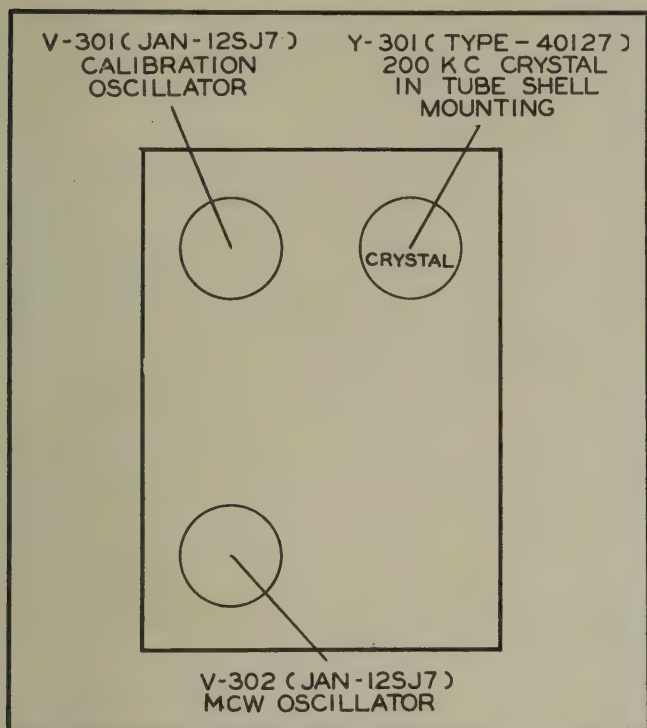
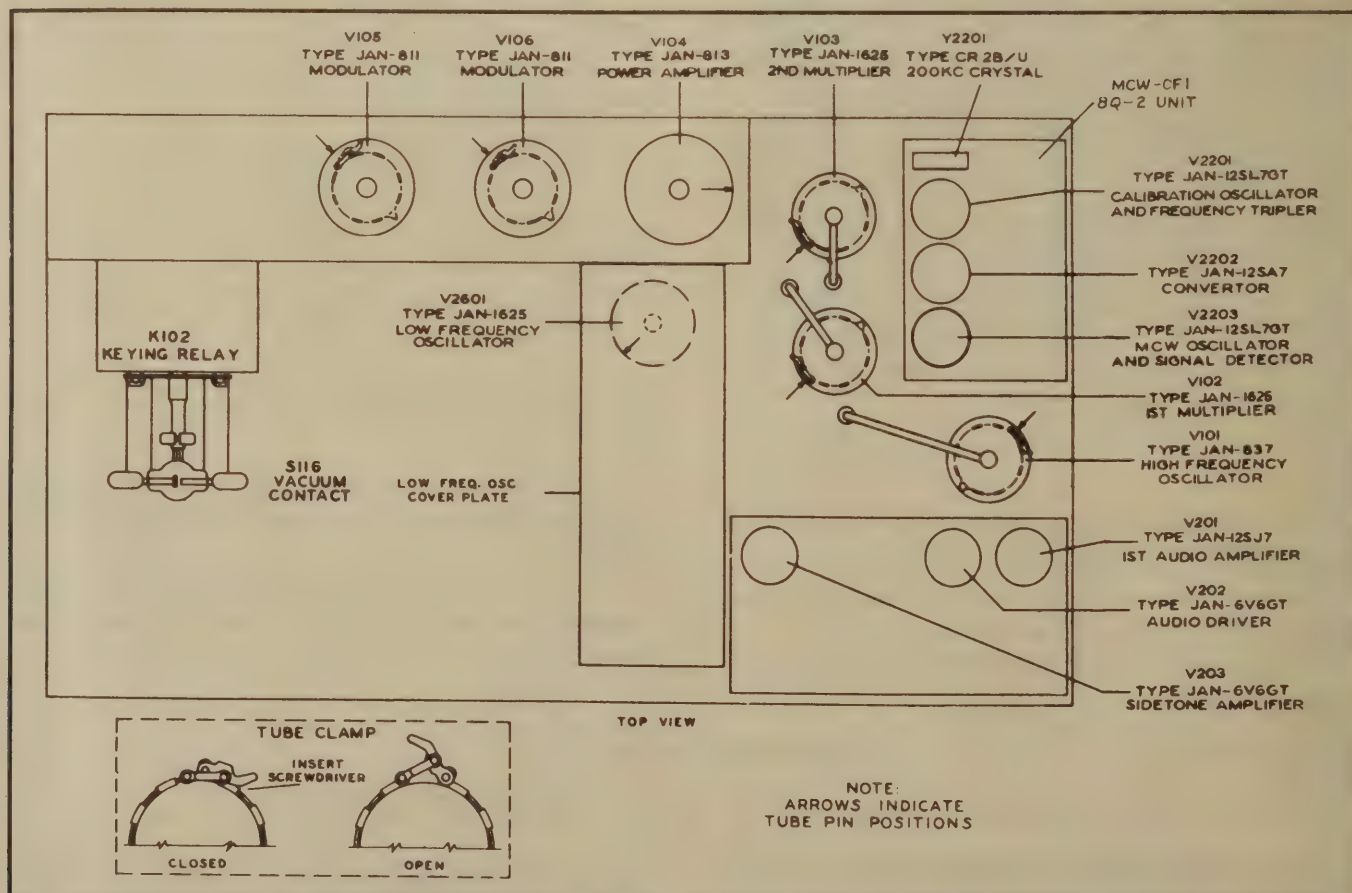

Figure 2-2—MCW-CFI 8Q-1 Unit—Tube Placement Diagram
Figure 2-1—Radio Transmitter T-47A/ART-13 and Oscillator 0-17/ART-13A (or Oscillator 0-16/ART-13)—Tube Placement Diagram
(see fig. 2-1)
1. Make sure the crystal is in the proper position and clamped securely in place. (See fig. 2-1 when MCW-CFI 8Q-2 Unit is used; see fig. 2-2 when MCW-CFI 8Q-1 Unit is used).
2. Make sure all tubes are mounted securely in the sockets and that tubes JAN-811, JAN-1625, and JAN-837 are locked properly. (See fig. 2-1 or 2-2.)